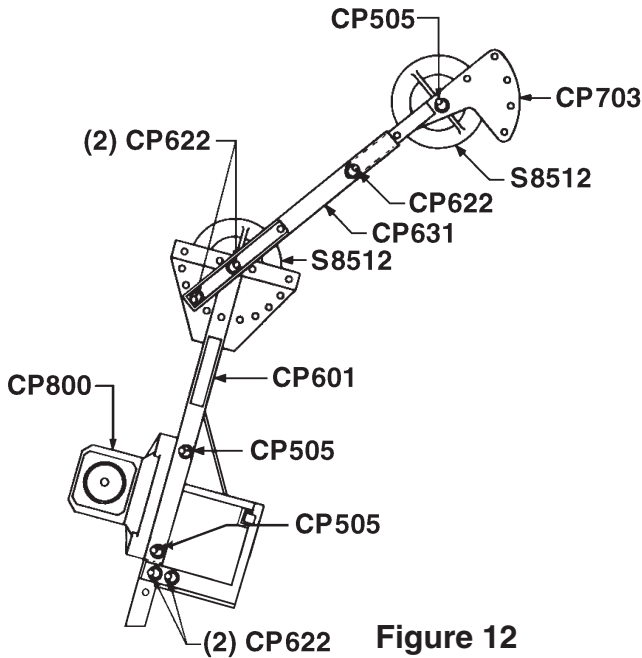
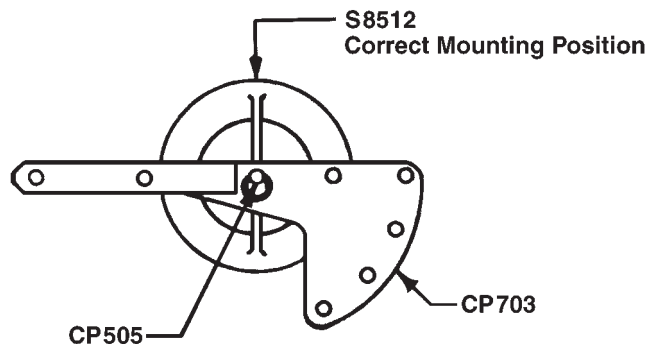

Figure 12
Figure 9
Attach the CP631 Extension Boom to the CP601 Conduit Frame Adapter along with the S8512 Sheave using a CP622 ten-inch Lock Pin. Insert (1) CP622 ten-inch Lock Pin thru CP631 Boom and into the hole pattern of the CP601 Conduit Frame Adapter to position the angle of the CP631 Extension Boom. See figure 12.
- 2) Use of the CP703 pipe adaptor also requires the S8512 10-inch sheave for the rope to travel across. The sheave must be mounted with one CP505 8-inch pin as shown in figure 9. (See figure 12 for optional method.)